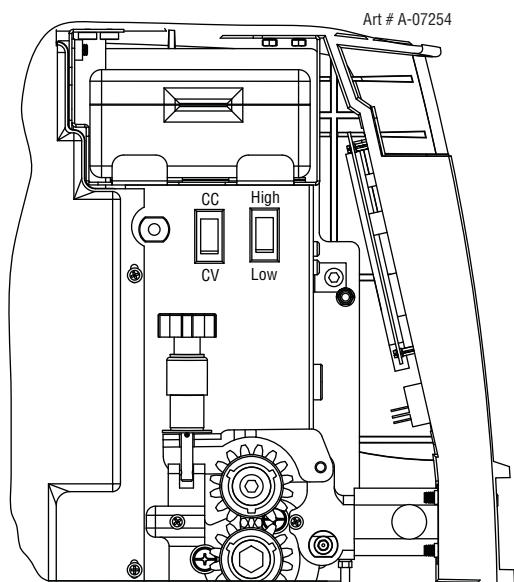

Figure 4-1: CC/CV Switch Location
3. Set the CC/CV mode switch on the wire feeder to the proper position (refer to paragraph 12, CC/CV Mode Switch on page 2-9 and figure 4-1).